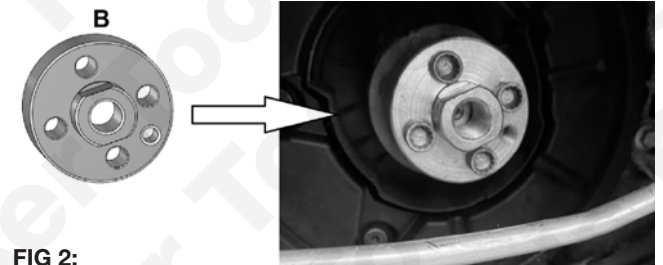

FIG 2:
Bolt the puller body (B) on to the end of the crankshaft using the crankshaft pulley bolts as shown in figure 2.